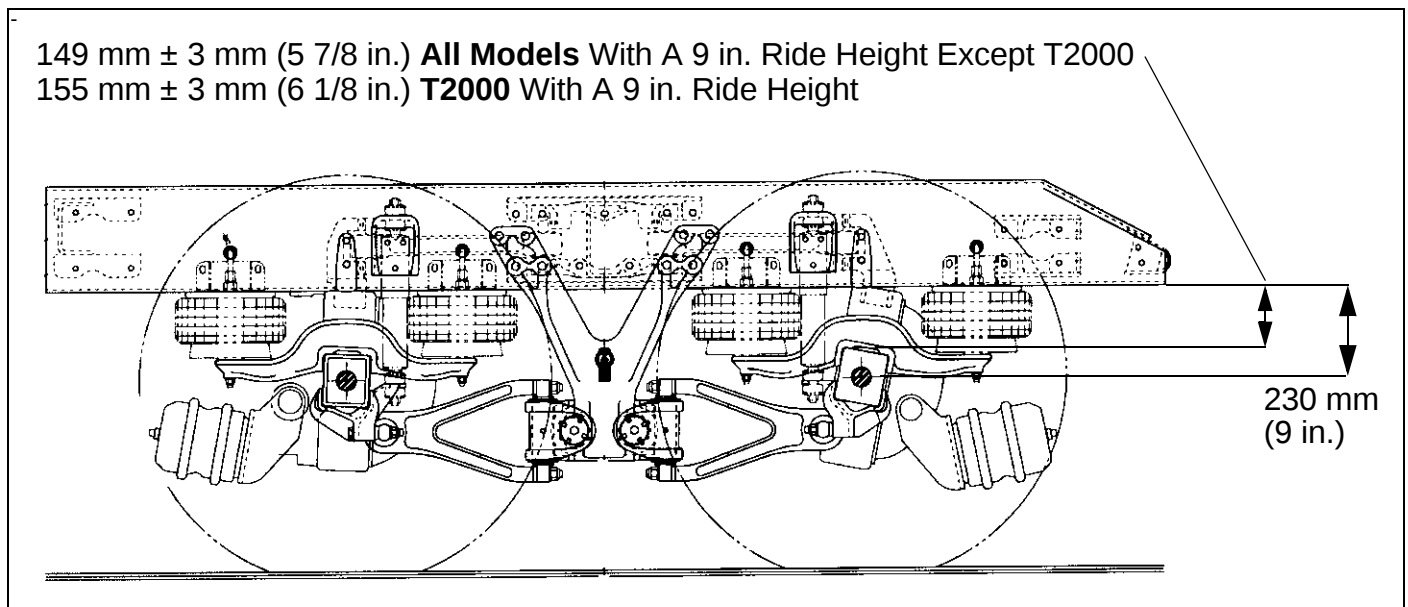

Figure 17-7 For 9 in. Ride Height
- All Models With a 9 in. Ride Height Except T2000: 149 mm $\pm$ 3 mm (5 7/8 in. $\pm$ 1/8 in.) See Figure 17-7
- T2000 With a 9 in. Ride Height: 155 mm $\pm$ 3 mm (6 1/8 in. $\pm$ 1/8 in.). See Figure 17-7